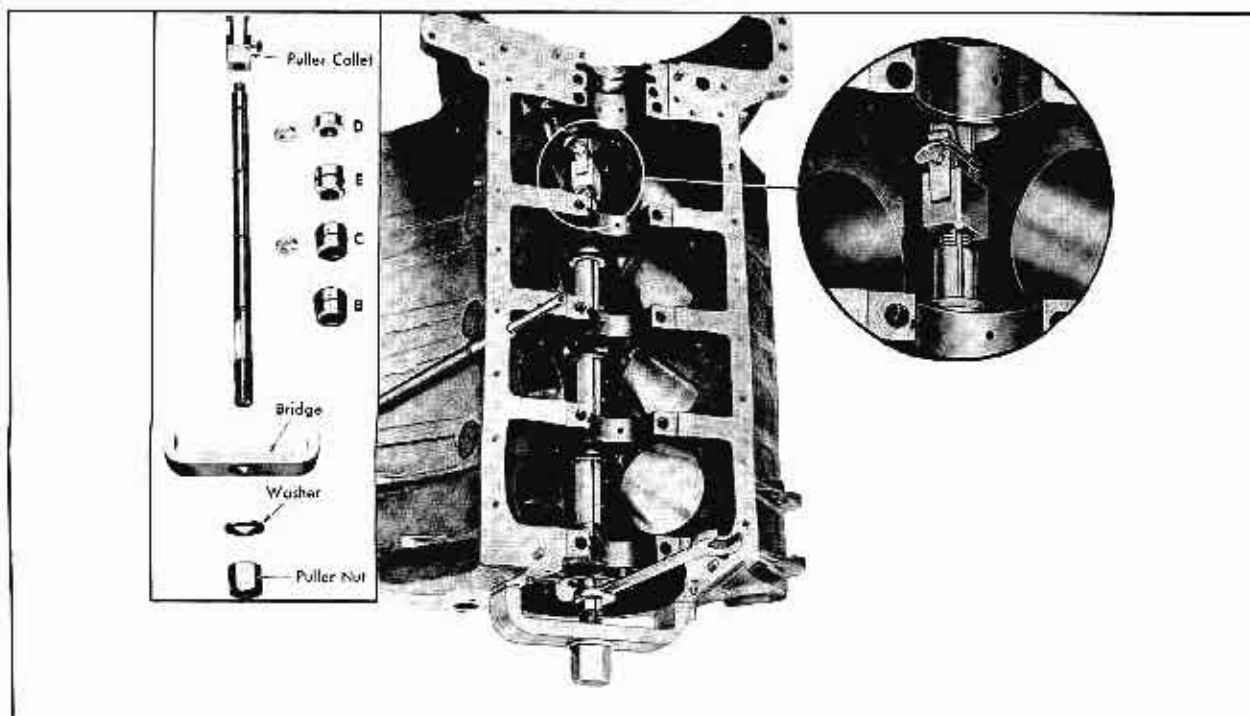

Fig. 10-30 Removing Camshaft Bushings
1. Install puller collet of Camshaft Bearing Removing and Installing Tool No. J-3063 in No. 5 bearing, Fig. 10-30.